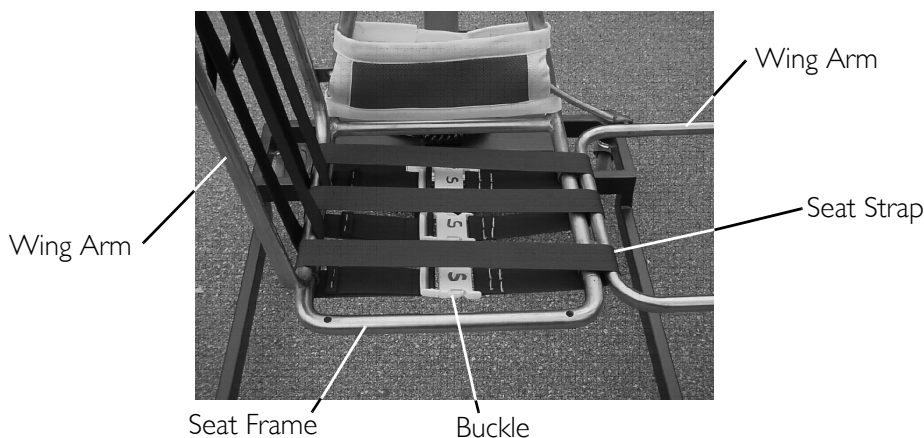
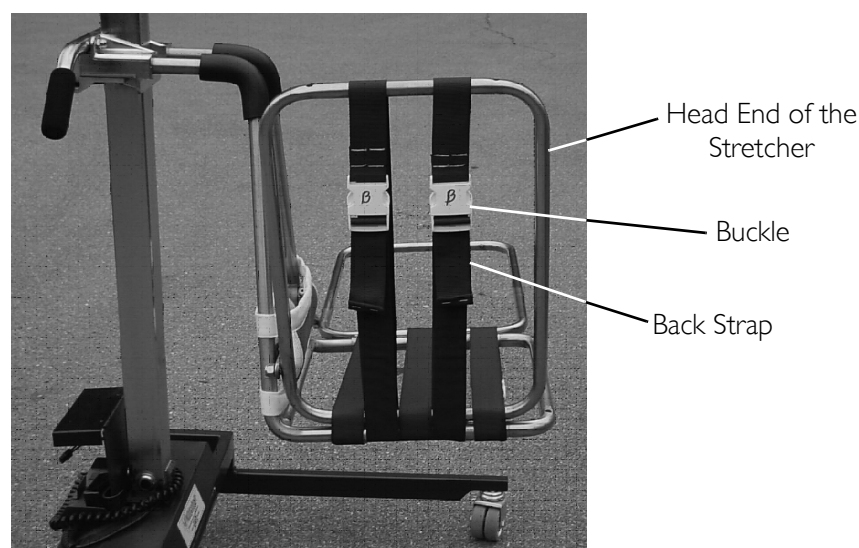

FIGURE 6.2 Seat Straps
FIGURE 6.3 Back Straps
NOTE: For this procedure, refer to 3. on page 29, FIGURE 6.2, FIGURE 6.3 on page 31, FIGURE 6.4 on page 31 and FIGURE 6.5 on page 32.
3. Position the three seat straps horizontally across the seat frame (FIGURE 6.2).
7. If necessary, raise the right or left wing arm of the stretcher to prepare the head end (FIGURE 6.3).